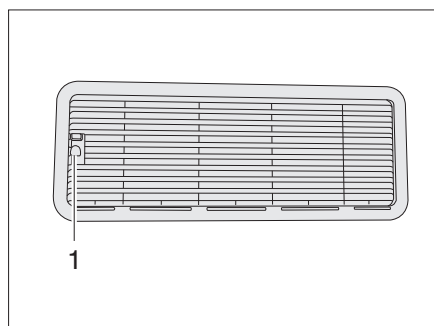

Fig. 89 Refrigerator ventilation grill
- Press the latch (Fig. 89,1).